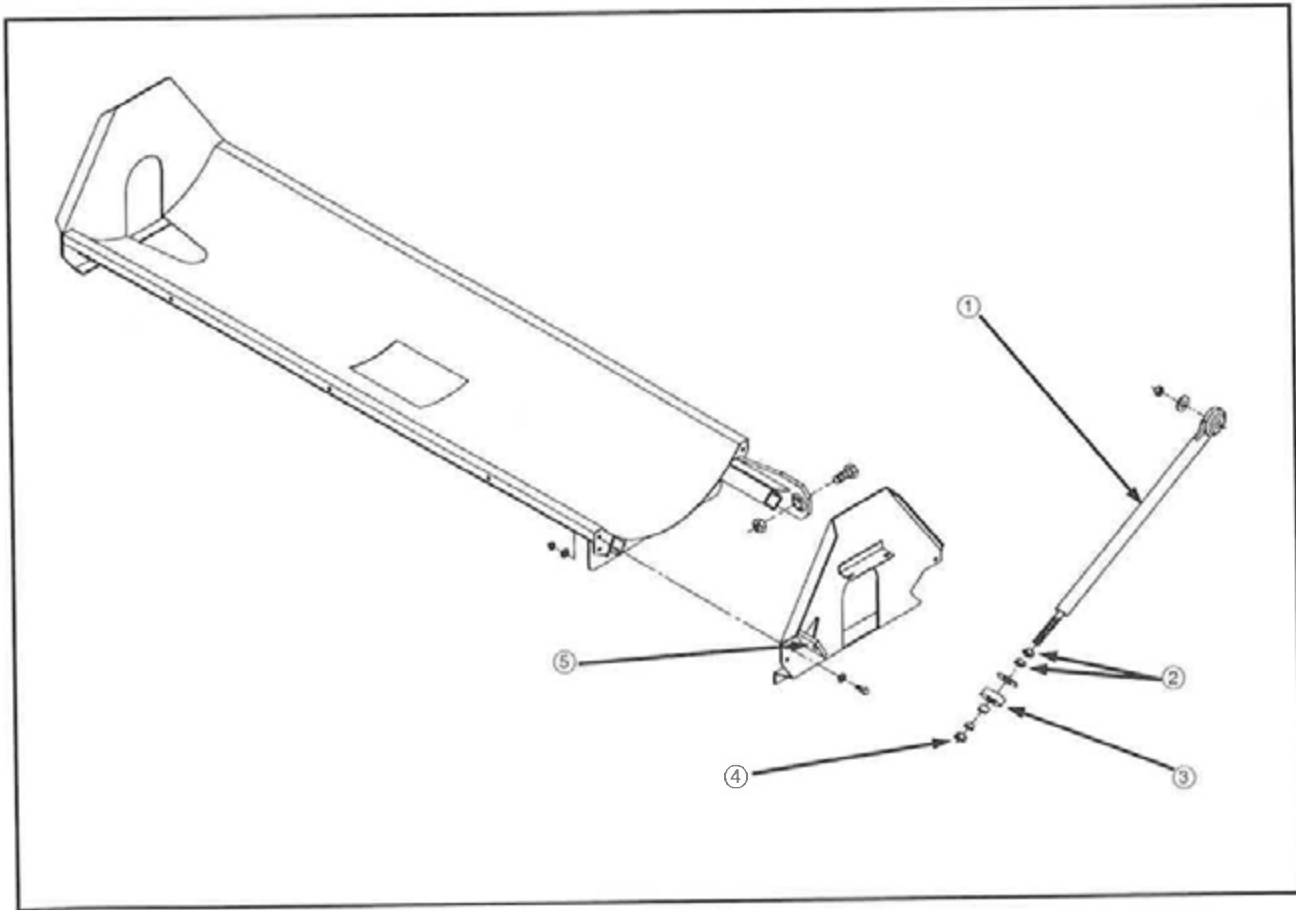

FIG 5.52
Loosen the two jam nuts (fig. 5.52, items 2) on the tank support rod (fig. 5.52, item 1) and adjust the nut (fig. 5.52, item 4) until the tank is in a vertical position. Adjust the two jam nuts until the rubber pad (fig. 5.52, item 3) makes contact with the
mounting bracket (fig. 5.52, item 5).